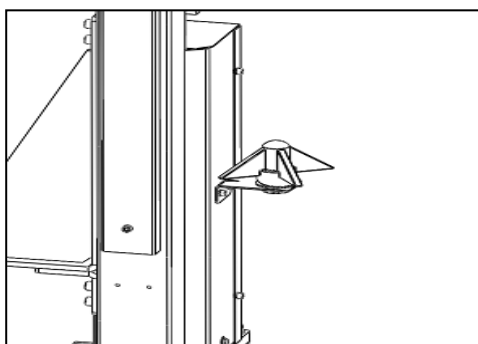

FIG 37
6.1.7 The press block includes the taper block (FIG34-1) and upper press block (FIG34-2) and the taper block can twist into the upper block. When press the rim center (FIG35), need to use the taper block and just need the upper block when do the common operation and put the taper one onto the bracket(FIG37).